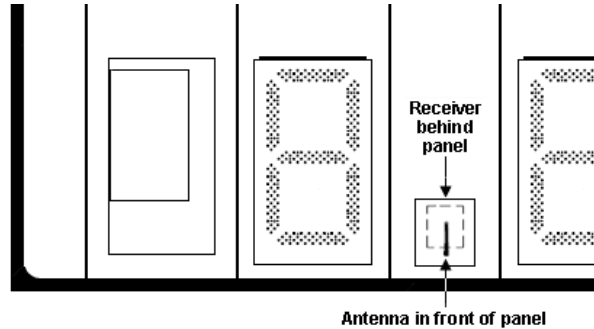

Figure 27: Radio Receiver Location
1. To locate the radio receiver, look for the antenna sticking out the front of the scoreboard (**Figure 27**). Refer to the component location drawings in **Appendix A** for exact location of the radio for a particular scoreboard.